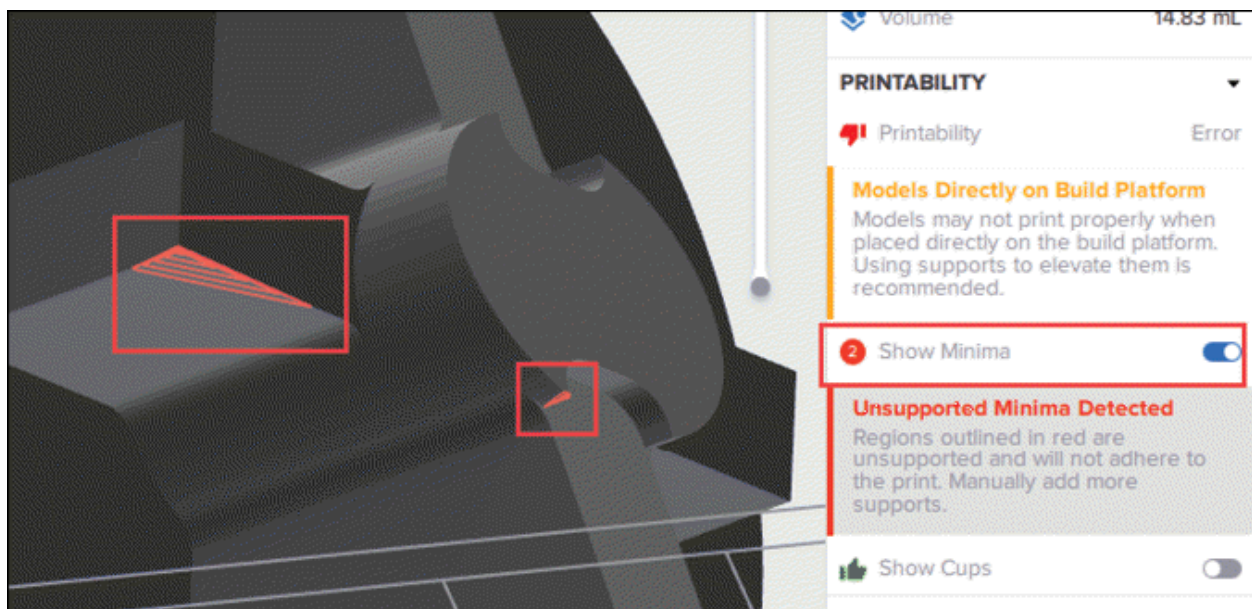

Figure-56. Unsupported minima areas of model
- Select the **Show Minima** radio button to display the unsupported areas of model if the model is not oriented correctly; refer to Figure-56.